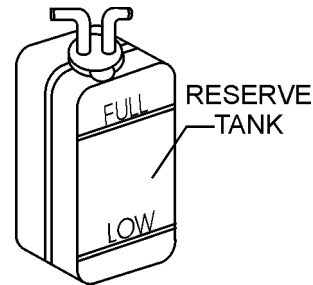

Figure 13. Reserve Tank
2. Check the coolant level in the reserve tank, (Figure 13), make sure it is filled to the "FULL" marking with coolant. The coolant will last for one days work if filled to the "FULL" mark. Replenish coolant as coolant approaches "LOW" marking on reserve tank.